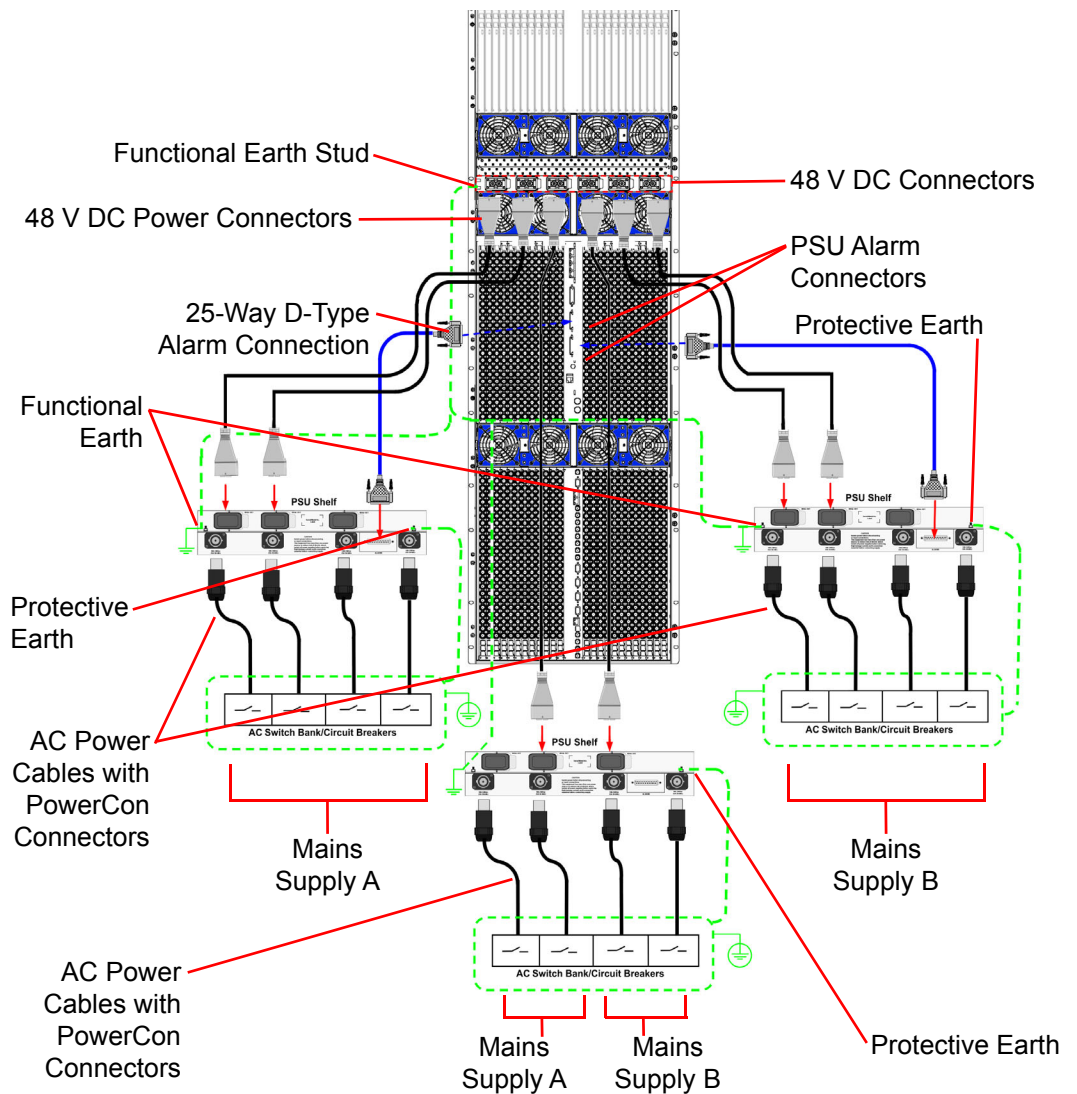

Figure 15 Sirius 850 Triple Power Shelf, 6 DC Cables and Alarm Connections
- When a power supply shelf is fed by two mains supplies (as shown in Figure 15) it cannot be isolated.